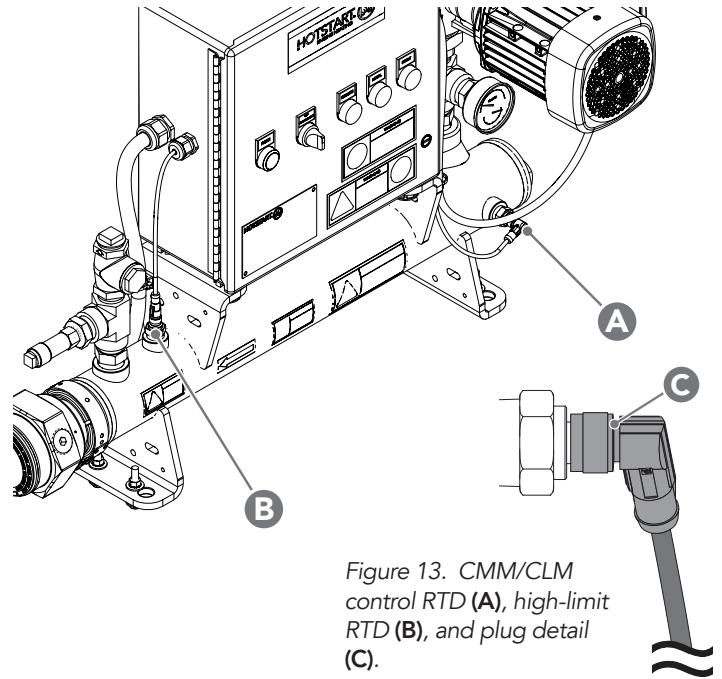

Figure 13. CMM/CLM control RTD (A), high-limit RTD (B), and plug detail (C).
2. Close isolation valves. Drain fluid from the heating tank (see **SECTION 4.2.4**). Locate the RTD that requires replacement. See *Figure 13*.